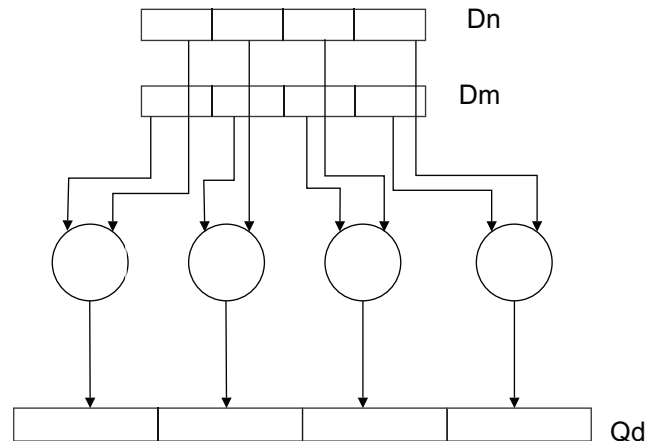

Figure 3-1 NEON long instructions
- Long* instructions usually operate on doubleword vectors and produce a quadword vector. The result elements are twice the width of the operand elements. Long instructions are specified using an L appended to the instruction. Figure 3-1 shows an example long instruction, with input operands being promoted to quadwords before the operation.